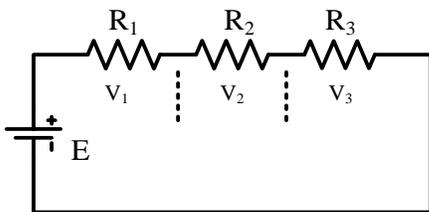

Fig.1: Circuit for Verification of KVL
1. Connect the circuit as shown in figure 1.